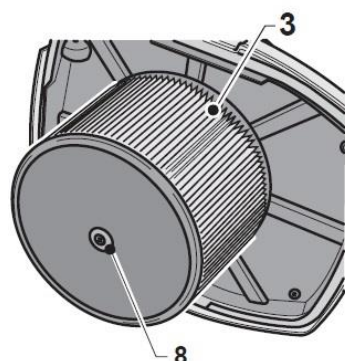

Fig. 5
3. Remove the motor filter by removing it's white bottom screw (8 Fig.5).
4. Place new motor filter (3 Fig.5) and secure it (8 Fig.5).